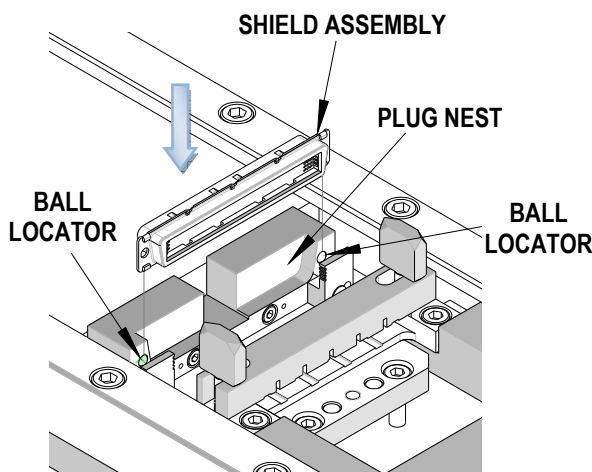

Figure 2-3
1. Load the shield assembly into the plug nest. The plug nest can be loaded only one way. See Figure 2-3. The long side of the "D" shell is towards the top of the nest.